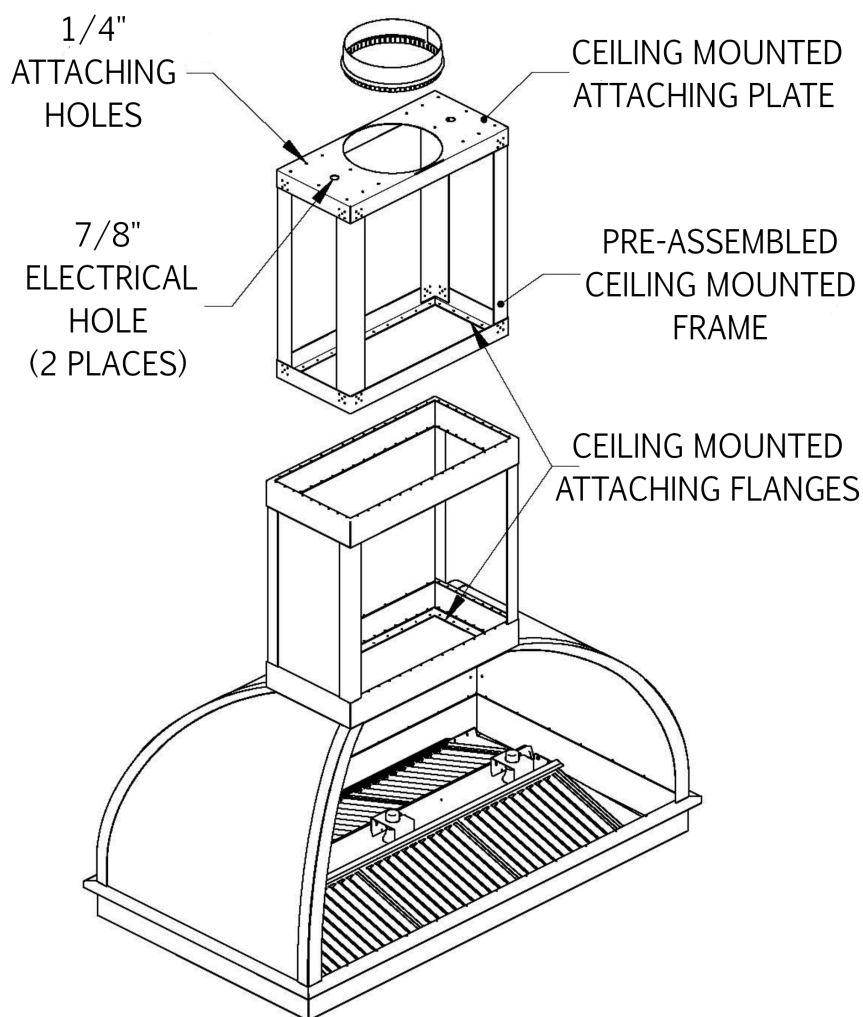

FIGURE 7: CEILING MOUNTING FRAME
2. Remove the pre-assembled mounting frame from hood (FIGURE 7).